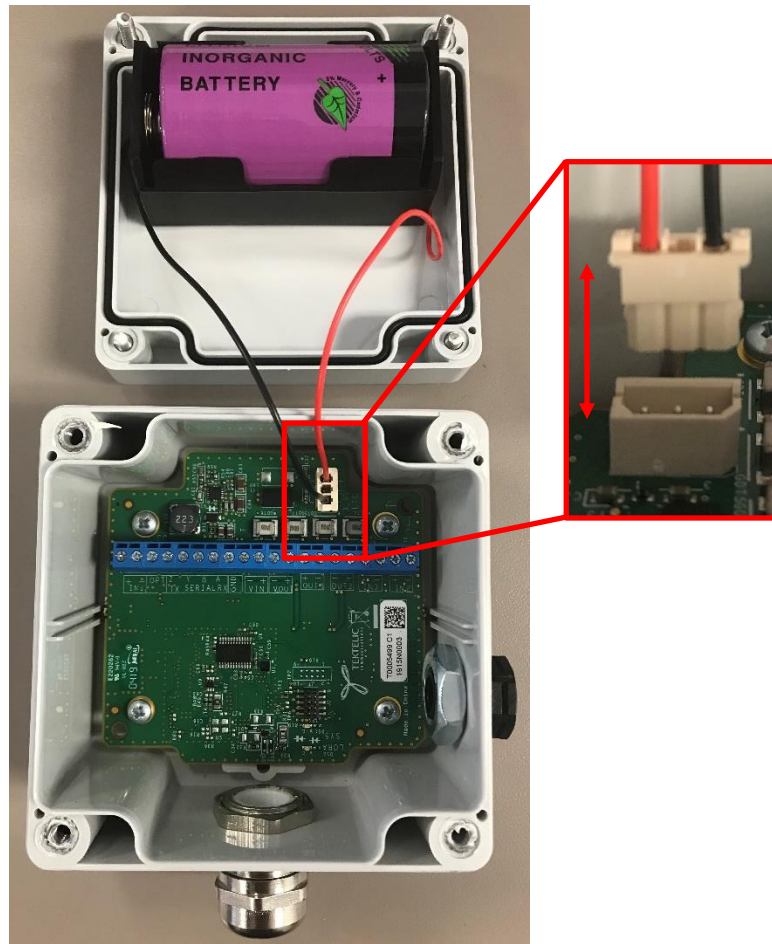

Figure 5-2: Battery Connector Removal
2. Unplug the battery connector from the sensor circuit board (see Figure 5-2).